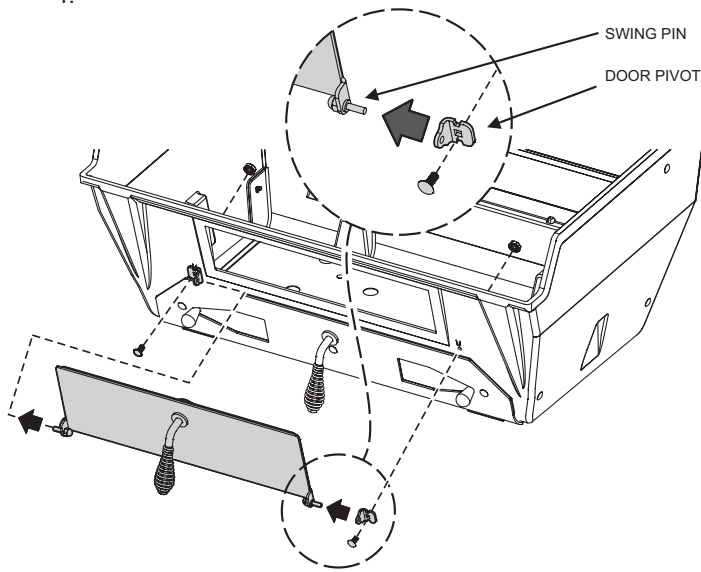

Figure 4
2. Insert the load door swing pin into the already attached door pivot. While holding the door in place slide the second door pivot on the opposite side door swing pin. Attach the second door pivot to the front of the grill body bottom using one #10-24 x 1/2" carriage bolt and one #10-24 keps nut. See Figure 4.